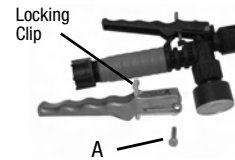

Figure 2
- 2) Remove the retaining pin (A) (Figure 2) place the notched end of the retaining pin on a hard surface and push down. Remove the retaining pin and slide the handle off the valve.